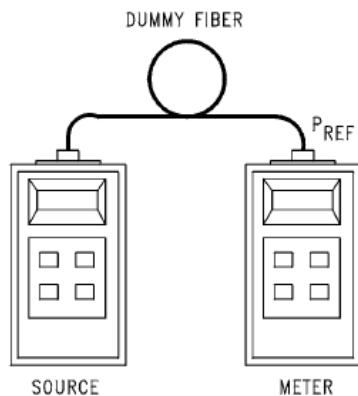

fig. 4.23
This measurement is usually carried out on cables to be installed, so that the two ends of the cable are accessible in the same place. An Optical Source, a Power Meter, an adapter and a reference cable are required (commonly called *launch fiber*) which is some meters long and with characteristics equal to the cable to be measured (fig. 4.23 and 4.24).
- Connect a 62.5/125 fiber with identifier “4” from the Source in 1st window to the Optical Power Meter (fig. 4.23).
- Connect a fiber directly from the Source to the Meter (fig. 4.23).
- Connect a fiber directly from the Source to the Meter (fig. 4.23)